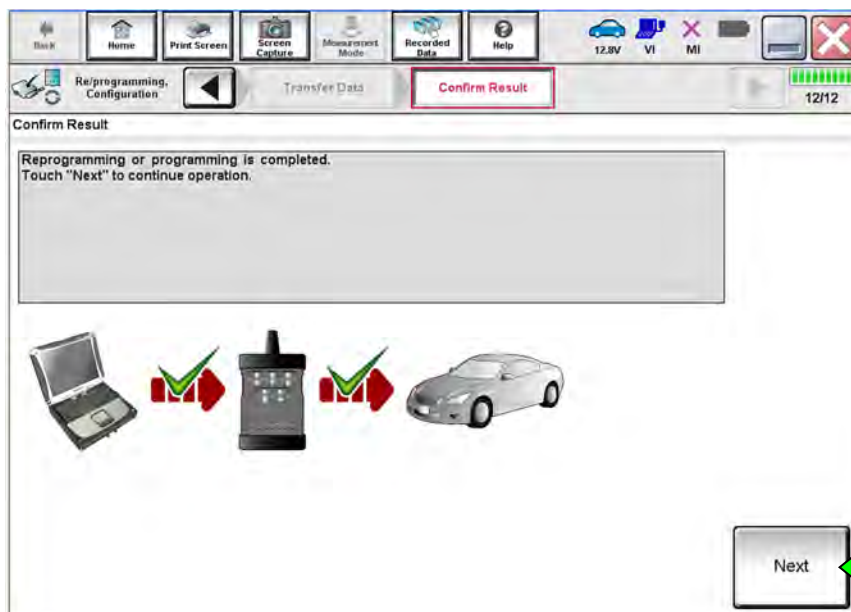

Figure 17
33. When the screen in Figure 17 displays, the reprogramming is complete.
**NOTE:** If the screen in Figure 17 does not display (reprogramming does not complete), refer to the information on the next page.